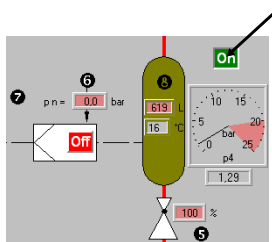

Fig. 3.5
- Switching on the compressor (Fig. 3.5)